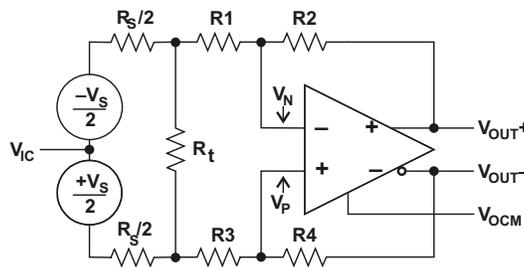

Figure 1. Terminating a Differential Input Signal
Figure 1 shows an example of terminating a differential signal source. The situation depicted is balanced so that half of  $V_S$  and half of  $R_S$  is attributed to each input, with  $V_{IC}$  being the center point.  $R_S$  is the source impedance and  $R_t$  is the termination resistor. The circuit is balanced, but there are two issues to resolve: (1) proper termination and (2) gain setting.